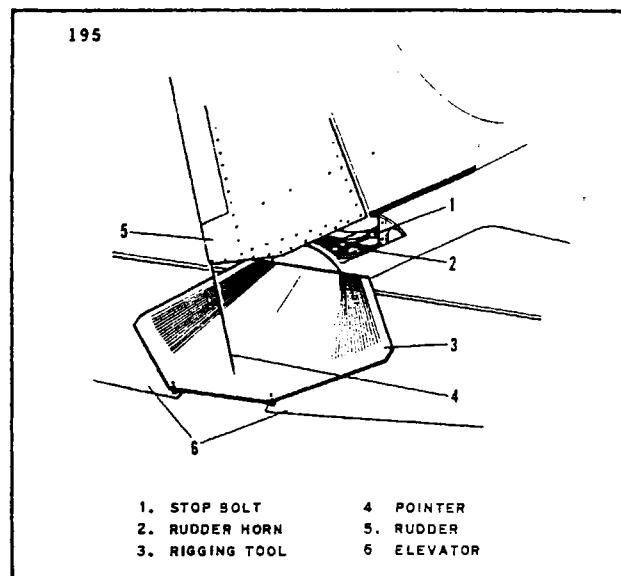

Figure 5-12. Installation of Rudder Rigging Tool
- c. Rudder travel adjustment with the use of the fabricated rudder rigging tool (Refer to Figure 5-12) may be accomplished as follows: